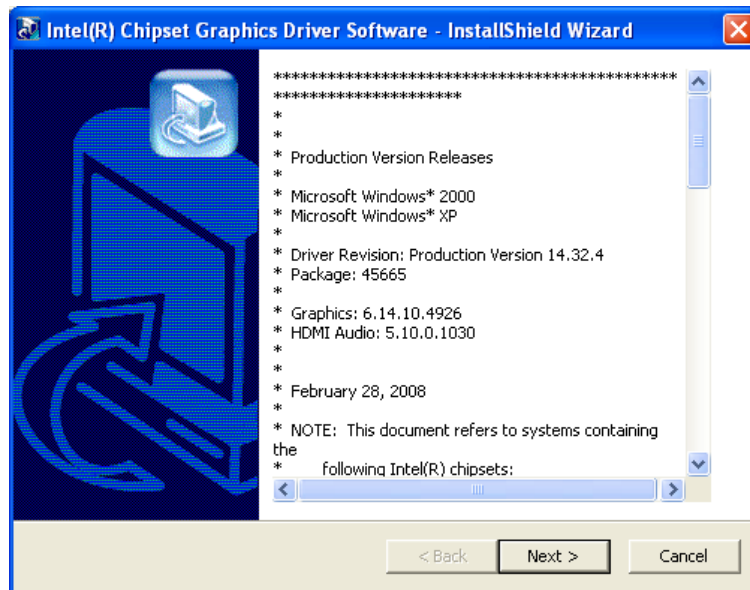

Figure 7-8: VGA Driver Read Me File
- Step 3:** The VGA Read Me file in **Figure 7-8** appears.